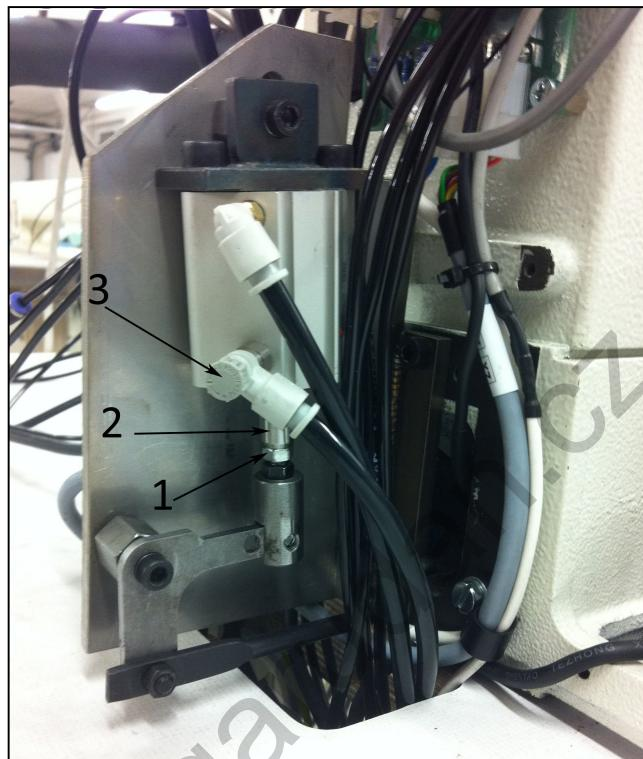

Fig. 28
If it is not possible to reach the correct distance precisely, make final corrections by loosening nut (1) and turning the piston rod (2). Back speed of the movable knife is regulated by loosening the valve (by 50% for threads with thickness 30-40 Nm and by 80% for threads with thickness 20-10 Nm). See fig. 28 below.